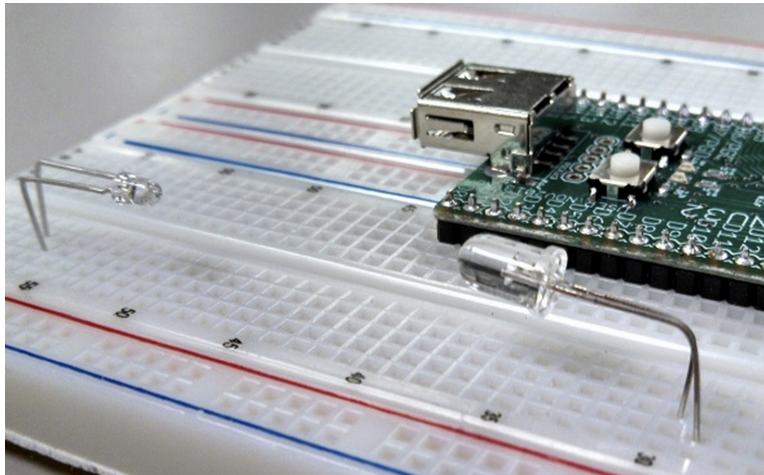

Figure 12.3: The phototransistor (left) and LED (right) pointed toward each other.
2. **Choose R .** Wire up the circuit as shown in Figure 12.1, except for the connection from the LED to OC1. The LED and phototransistor should be pointing toward each other, with approximately one inch separation, as shown in Figure 12.3. Now choose R to be as small as possible while ensuring that the voltage V_{out} at the phototransistor emitter is close to 3 V when the LED anode is connected to 3.3 V (maximum LED brightness) and close to 0 V when the LED anode is disconnected (the LED is off). (Something in the 10 k Ω range may work, but use a smaller resistance if you can still get the same voltage swing.) Record your value of R . Now connect the anode of the LED to OC1 for the rest of the project.